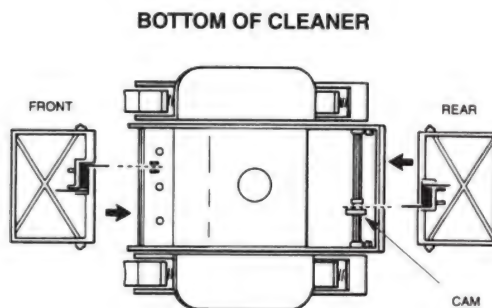

Figure 12
- b) You will notice that your replacement flaps look similar but are marked "Front" and "Rear" on the flap. **Because the springs in the flaps are different, it is absolutely necessary to install the proper flap in the front and rear of the unit.** Failure to do so will result in unsatisfactory performance of the Navigator. When installing the front flap, be sure that the extended leg of the spring is inserted into the notch on the front of the lower body (see Figure 12). Push the flap in place. You will actually feel and hear a snap when the flap is in place. Fold the flap in towards the bottom of the Navigator. You will feel some resistance at this point (that is normal). As the flap snaps into its normal position, you will feel the spring action and notice that the front flap is now in its normal operating position.
When installing the rear flap, the extended leg of the spring must fit against one of the flat surfaces of the cam (see Figure 12).